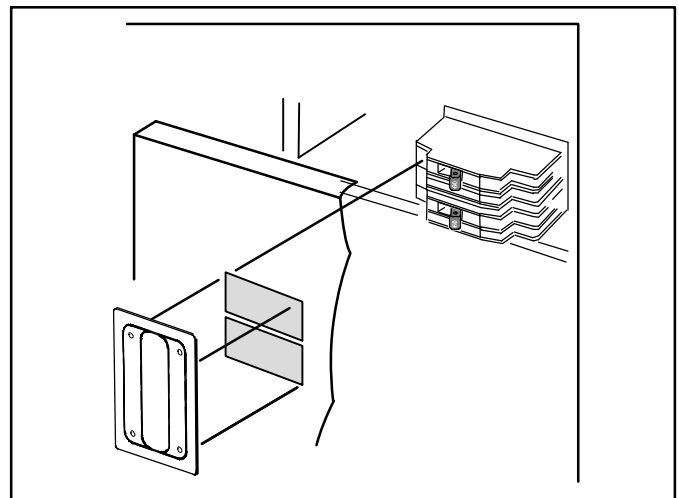

Figure 9. Typical Circuit Breaker Cover Installation
3. Position the breaker cover over the air handler circuit breaker opening (figure 9).